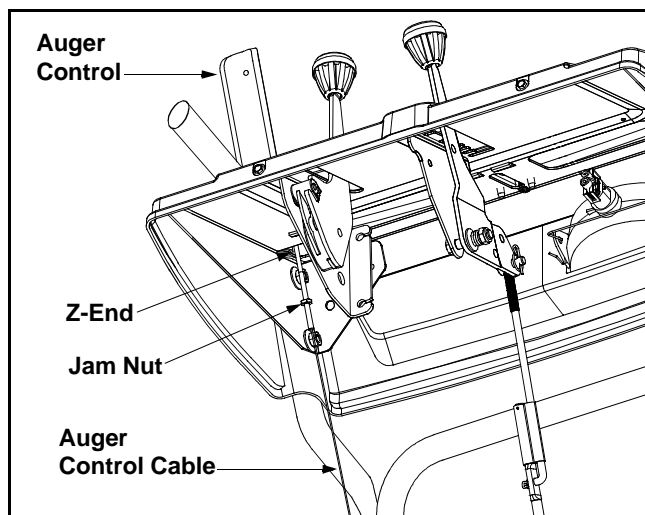

Figure 5
- Push forward on the auger control until the small rubber bumper contacts the upper handle. There should be slack in the cable. See Figure 5.
- Loosen the jam nut and thread the cable in (for less slack) or out (for more slack) as necessary. See Figure 5.